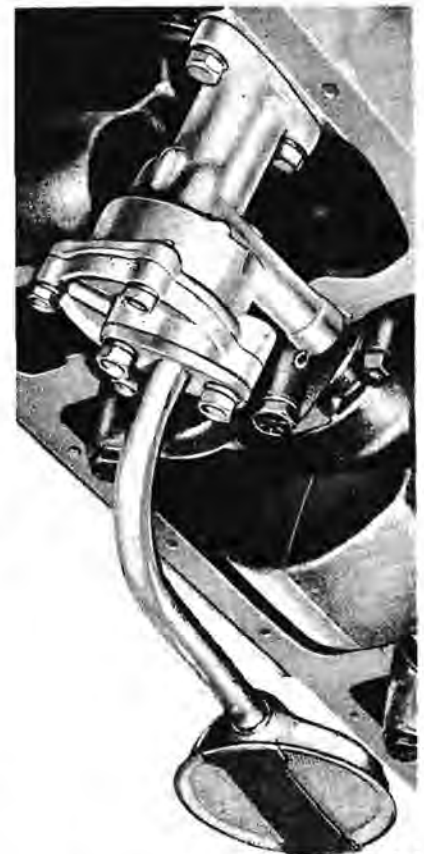

FIG. 46—170 Six Oil Pump Inlet Tube Installed
1. Clean and install the oil pump inlet tube and screen assembly (Fig. 46 or 47).